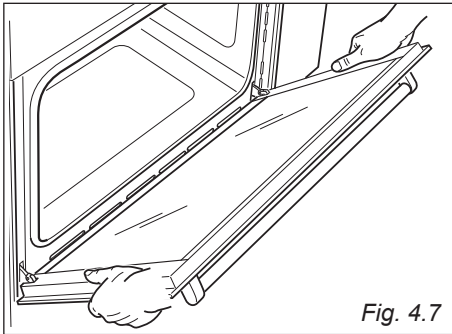

Fig. 4.7
- Hold the door as shown in fig. 4.7.